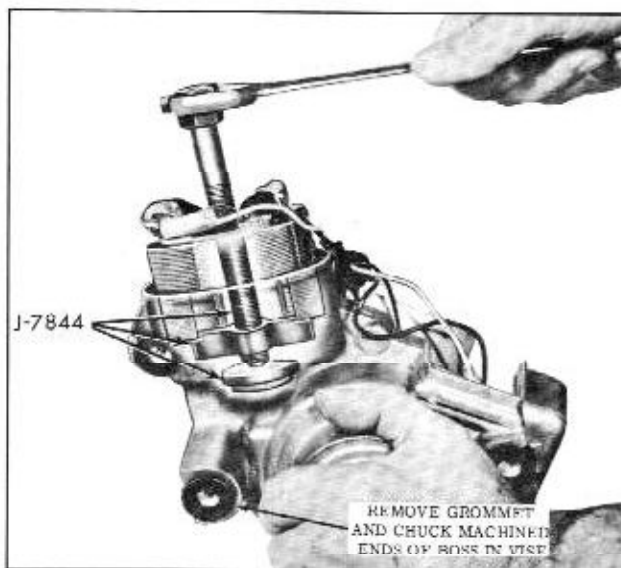

Fig. 13-116 Removing Field Coil
6. Remove field coil with Tool J-7844 as shown in Fig. 13-116.